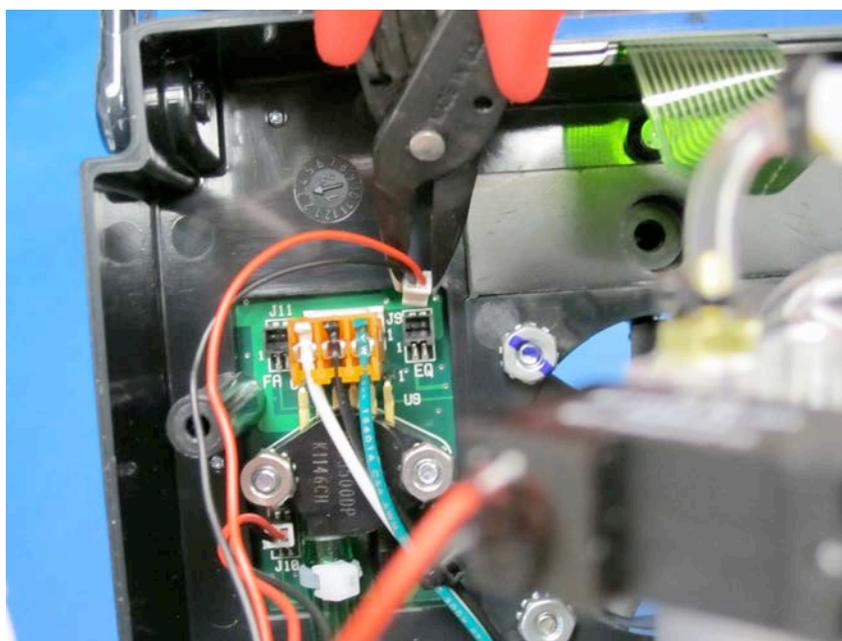

Figure 5.12
13. Using needle nose pliers, disconnect all the valves from the circuit board, carefully noting where each valve is connected. Do not disconnect by pulling on the wires. (See Figure 5.12.)